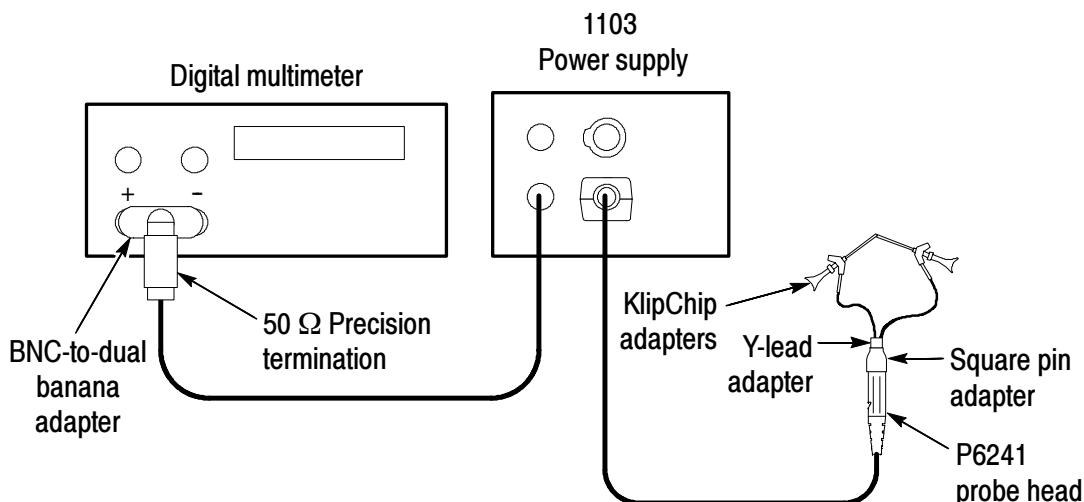

Figure 14: Setup for output zero
1. Connect the test equipment as shown in Figure 14.